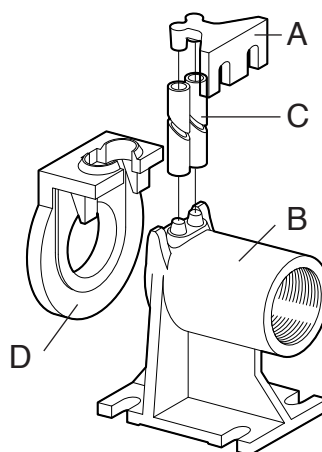

Fig. 7 Foot pedestal
- Fix the upper bracket for the guide pipes (fig. 7 – pos. A) to the edge of the pit
- Locate at bottom of pit the foot pedestal for the automatic coupling (fig. 7 – pos. B) and check that the guide pipe conical fixations are perfectly perpendicular and leveled to the correspondent fixations of the upper bracket located to the edge of the pit.
- Take the exact length of the guide pipes (fig. 7 – pos. C)
- Assemble the special skid-flange (fig. 7 – pos. D) on the delivery outlet of the pump and hook the rope or chain to the handle or slot located on the upper part of it.